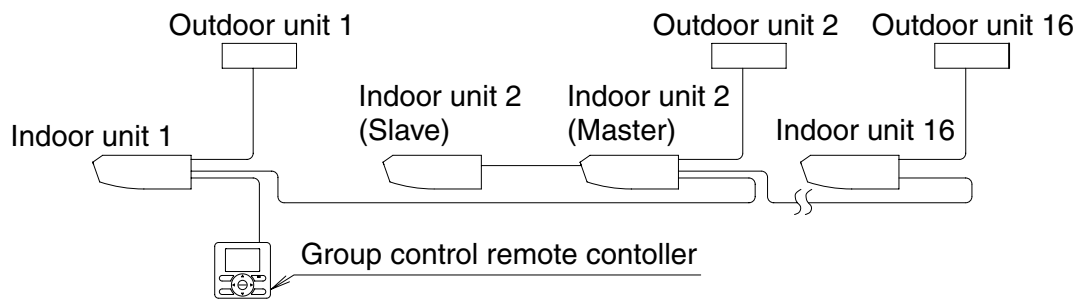

Fig. 34
- When using as a pair unit or as a master unit for simultaneous operation system, you may carry out simultaneous start/stop (group) control up to 16 units with the remote controller. **(Refer to Fig. 34)**